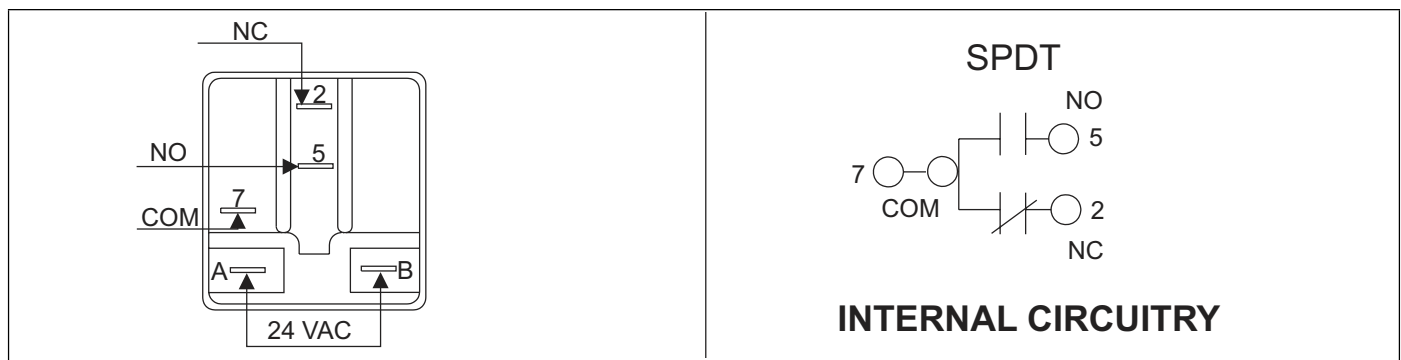

FIGURE 1: Relay Terminal
19. Connect the black wire from the outdoor fan connector to terminal 5 (normally open position) of the outdoor fan relay. The outdoor fan relay should be mounted on the right and comes with factory installed black, yellow, and red wires. Refer to Figure 1 for relay terminal information.